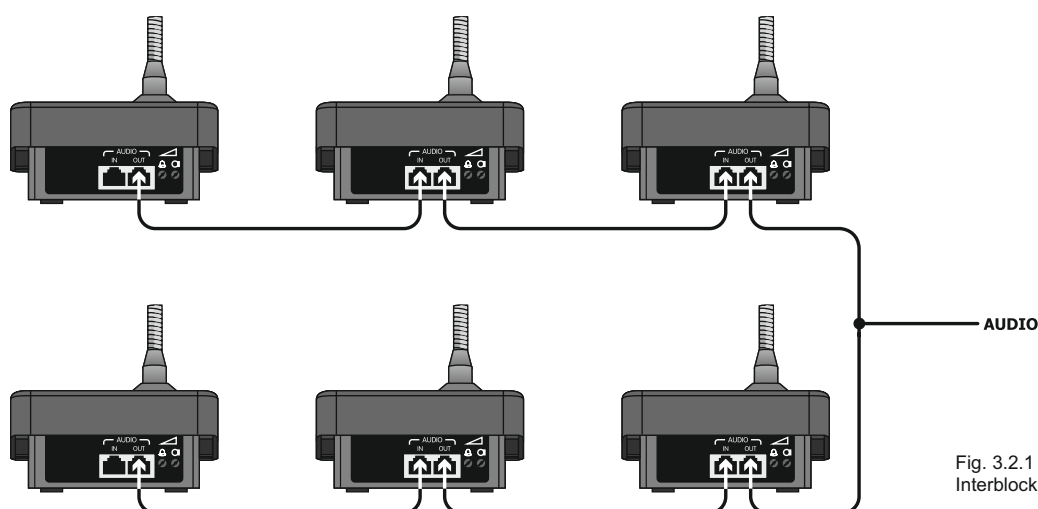

Fig. 3.2.1
- Only one station can be active at a time. While one station is active, the LED (3) on the other stations will flash to indicate a "busy" condition. If the active station is configured for low priority, it can be disabled on activating a station with a higher priority.
- The stations must be connected to one another in a daisy-chain, with a maximum of two branched lines from the control unit (Fig. 3.2.1).